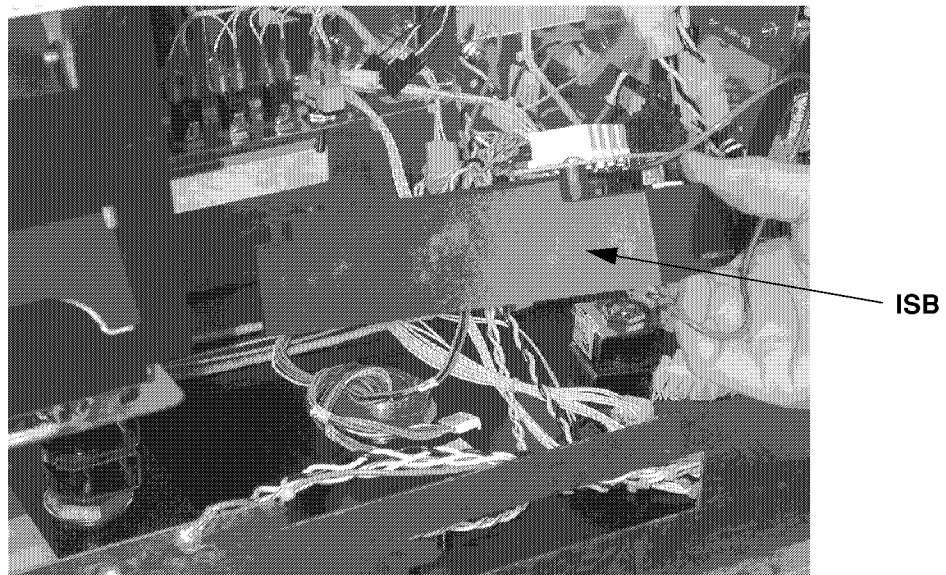

Figure 2-2 Remove the ISB
16. Detach the ISB from the vapor barrier, disconnect the harness and remove the ISB. See Figure 2-2. Save all hardware for later use.